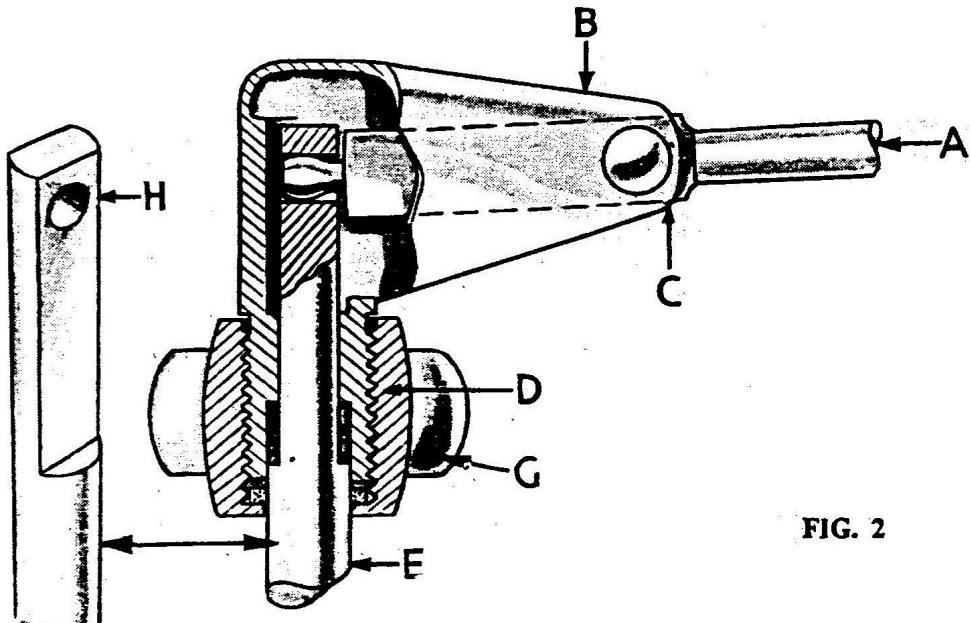

FIG. 3
(1) Remove gear lever A by withdrawing fulcrum pin C (after removing circlip, see Fig. 3). (2) Rotate cap and inner sleeve B through 180 degrees to the opposite side of the steering column. (3) Re-insert gear lever A and fulcrum pin C. Unfortunately the change is not quite so simple as it sounds, as in most cases, especially with the later type lever, it will be necessary to remove the steering wheel in order to give room for the cap to be lifted off its flats and rotated to the opposite side.